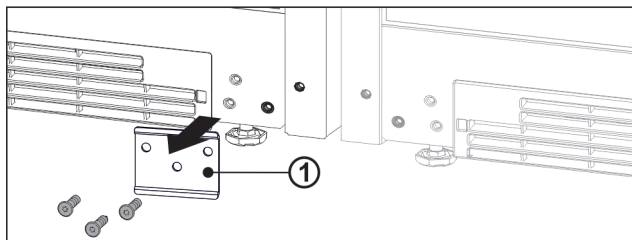

Fig. 13
- If the metal plate *Fig. 13 (1)* is installed, unscrew the metal plate.